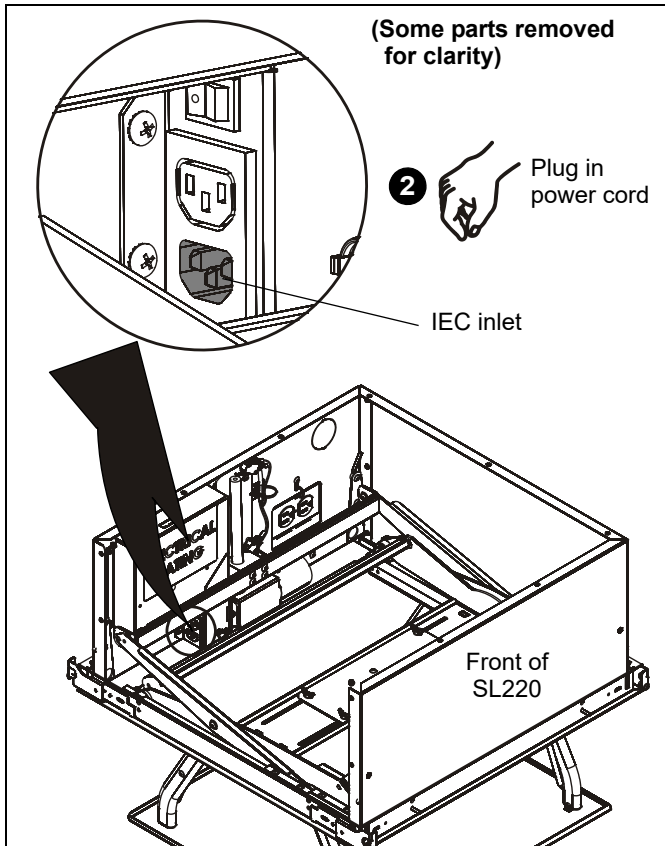
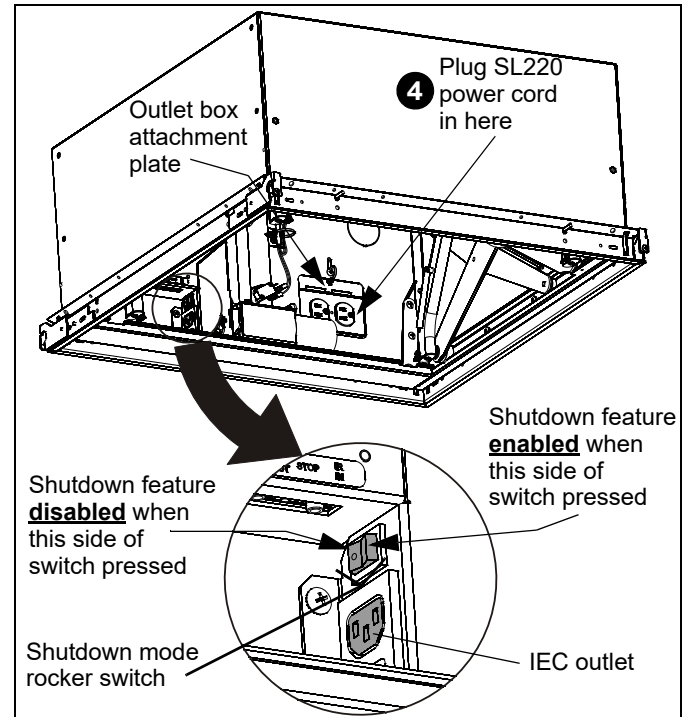

Figure 11
Figure 26
2. Plug power cord into IEC inlet on rear panel inside SL220. (See Figure 11)
4. Reconnect power cord to IEC inlet on rear panel inside SL220. (See Figure 11) Power cord must be plugged into outlet installed in the outlet box attachment plate. (See Figure 26)
By default, this feature is disabled. To enable or disable this feature, use the rocker switch directly above the IEC outlet. To **enable** depress the blank side of rocker switch. To **disable** depress the white dot side of rocker switch. The projector **MUST** be plugged into the IEC outlet in order for this feature to function. (See Figure 26)
NOTE: Projector **MUST** be plugged into the IEC outlet located within the lift. (See Figure 26)
2. Make sure Projector Shutdown Mode is disabled. (See Figure 26)